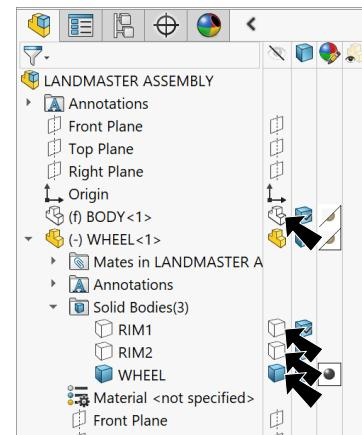

Fig. 7
Step 1. Show WHEEL body(s). To show, in the Feature Manager Display Pane under Hide/Show column for WHEEL body click Hide to turn off hide, Fig. 7.
Hide BODY part and both RIM body(s). To hide, in the Feature Manager Display Pane under Hide/Show column for BODY part click Show to turn off show, Fig. 7.
And hide both RIM1 and RIM2 bodies. To hide, in the Feature Manager Display Pane under Hide/Show column for RIM1 body click Show for both RIMs to turn off show, Fig. 7.